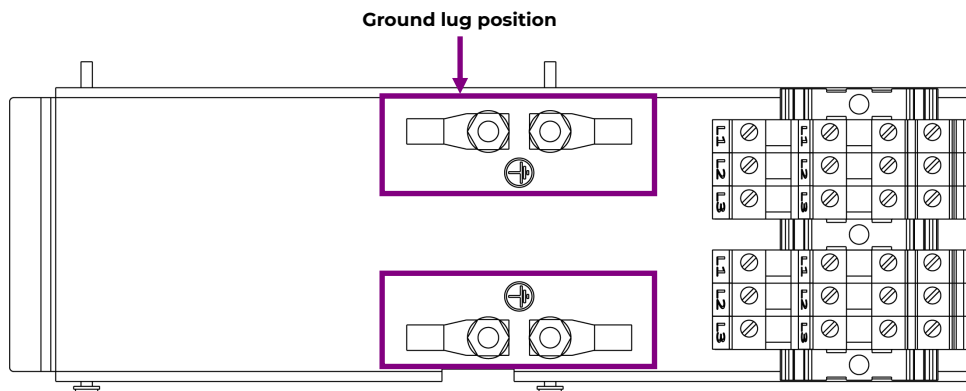

Figure 16 Ground wire connections
- Attach the lug to ground wire and connect the lug to grounding position as shown in the figure 16. Torque terminal block connection to 65 in-lbs.